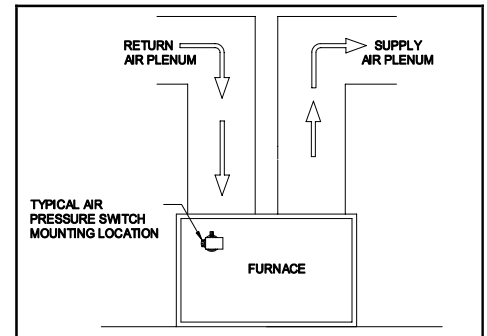

Figure 1
1. Locate a suitable mounting position for the air pressure switch. This should be on the furnace enclosure or on a solid structure close to the furnace. The switch must be mounted such that the diaphragm is vertical. Mark the four mounting screw holes using the switch mounting plate as a template. The screw holes can be pre-drilled using a 1/8" or smaller drill bit. Use care when drilling any holes to avoid damaging any internal structures. (See Figure 1).
2. Mount the air pressure switch at the selected location (See Figure 1).